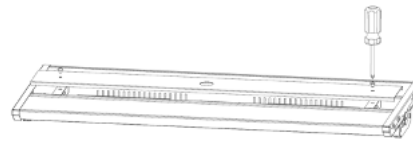

Figure 12
**Step 1:** Open the access cover with screwdriver (Figure 12)